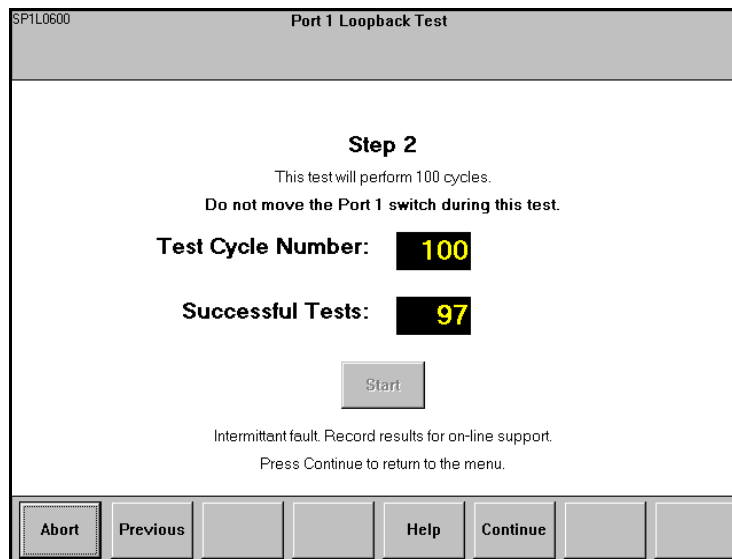

Figure 12
8. If a fault is present, the operator will see a screen similar to that in Figure 12.